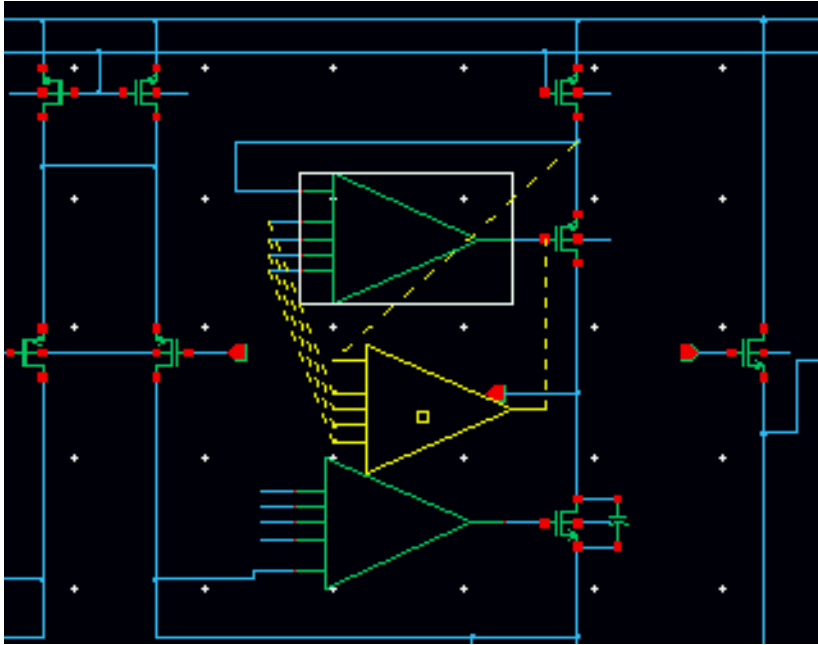

Figure 7-2 Instance option checked so all connected wire segments will be rerouted
- When the *instance* option **is checked**, *all* wire segments between the selected instance and the next solder dot, instance, or pin, will be rerouted (as shown in Figure 7-2 on page 474).